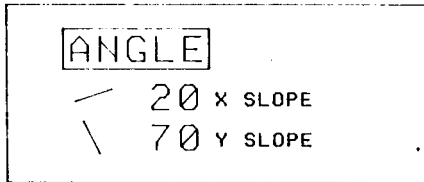

Fig 1
- 2 Set the angles of the coarse lock to X = 20 degrees and Y = 70 degrees (Fig 1).